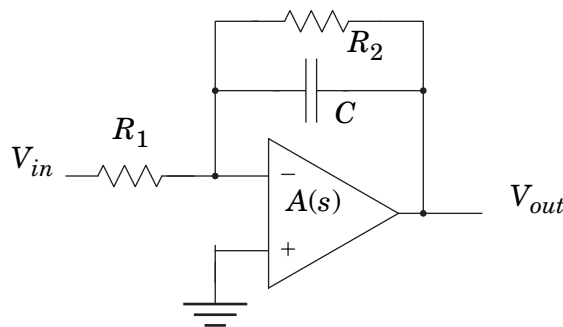

Figure 3.1 A operational amplifier in a feedback configuration.
An operational amplifier is used in a feedback configuration shown in Figure 3.1. The transfer function of the amplifier is given by
- c) In the circuit shown in Figure 3.1 the capacitor and the resistor forms the time constant in the building block. Process and temperature variations yields a large component spread, low matching of the time constant. Assume instead that we can form the time constant by a capacitor ratio. State two ways to improve the matching of the two capacitors where $C_2 = C_1 = 50pF$. (2p)